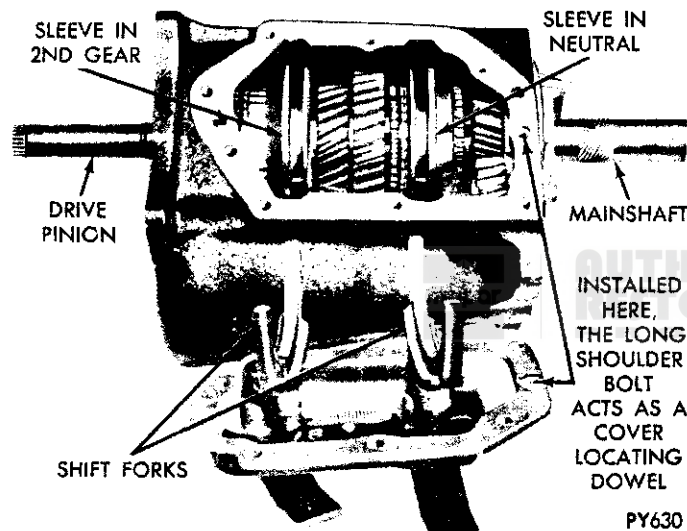

Fig. 4—A-230 With Shift Mechanism Assy., Pinion Bearing Retainer, and Extension Housing—Removed
- (2) Remove housing retaining bolts and lift shift mechanism from case (Fig. 4).
(3) If shaft "O" ring seals need replacement, proceed as follows: Pull shift forks out of shafts.
- (4) Remove nuts attaching operating levers to the shafts. Disengage levers from flats on shafts and remove.
(5) Remove burrs from shafts before removal from housing to avoid scoring the bores which would cause leakage after reassembly.
- (6) Push gearshift lever shafts through housing bores and remove.